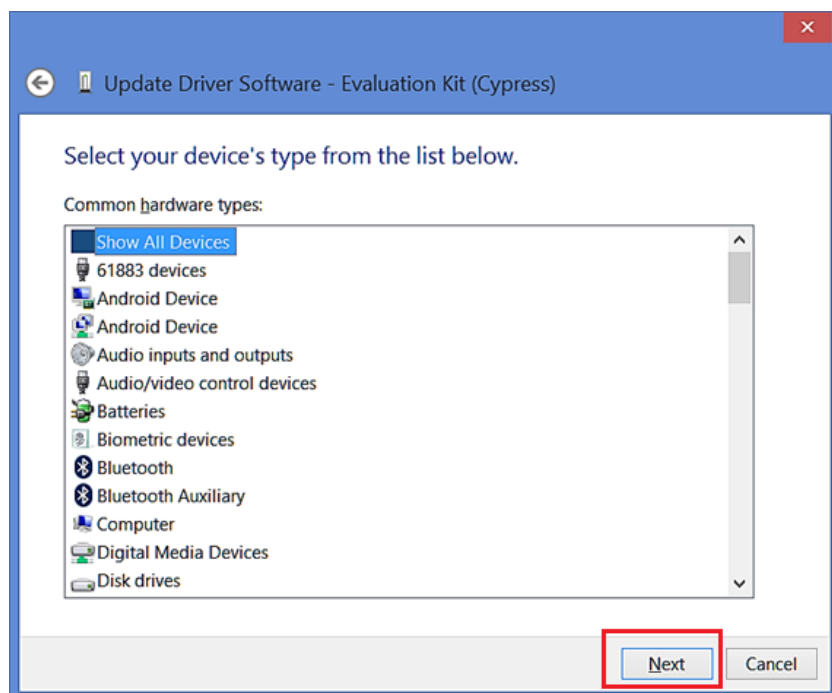

Figure 91. Update Driver Software - 3
6. Choose "Next" (the selection in the list does not matter), as highlighted in *Figure 91*.